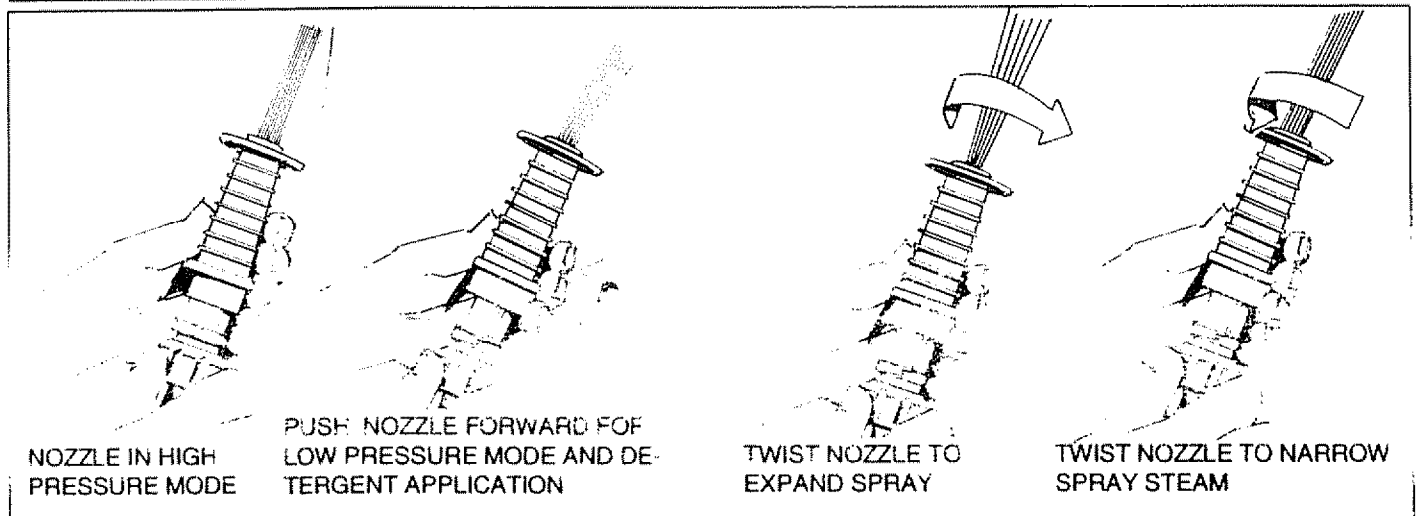

FIG. 12
- Push the nozzle attachment forward when you wish to adjust the spray to low pressure mode (Fig. 12). Push the nozzle backward to achieve high pressure.
- Set nozzle to low pressure mode. Detergent is not siphoned in the high pressure mode (Fig. 12).